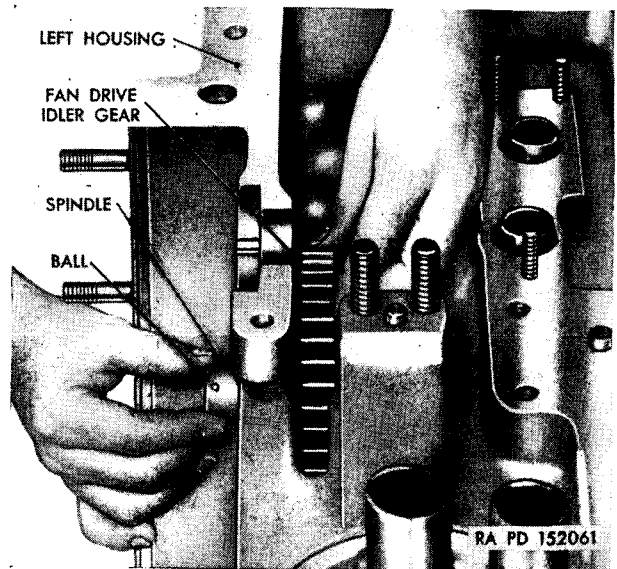

Figure 322. Installing fan-drive idler gear and spindle.
- (2) Install the fan-drive idler gear and spindle (fig. 322).